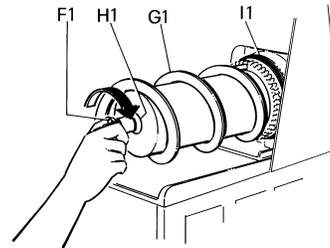

FIGURE 24
30. Unscrew the fastening knob (F1) clockwise as the direction indicated by the arrow (threading to the left) and remove the spiral scraper (G1) and the seals (H1) and (I1). Clean the individual parts thoroughly (FIGURE 24).